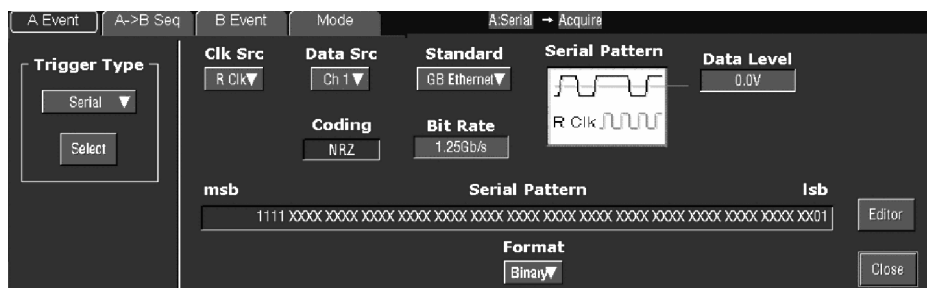

Figure 4: Serial pattern trigger control window
3. Touch either of the Trigger Type buttons. Select the **Serial** Trigger Type. The instrument displays the serial pattern trigger functions, as shown in Figure 4.